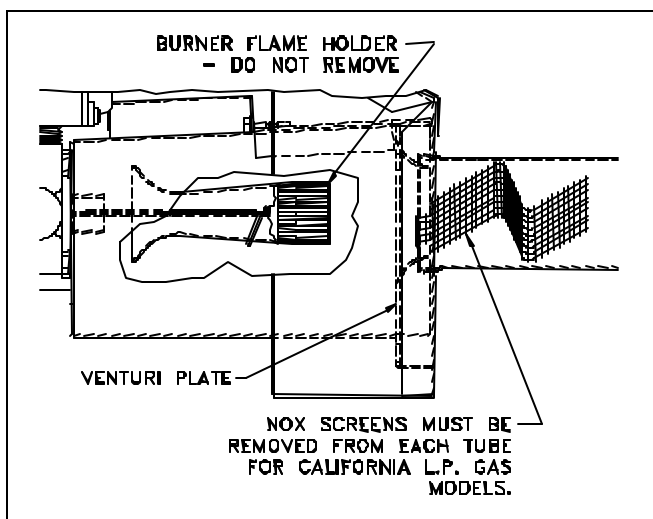

Figure 29. California NOx Screen Removal.
**WARNING:** Propane (LP) gas installations do not have gas meters to double check input rate. Measure manifold pressure with an accurate manometer. Failure to accurately adjust pressure could cause heat exchanger failure, asphyxiation, fire or explosion, resulting in damage, injury or death.
2. Gas supply pressure must be between 11 and 13 inches W.C. for propane (LP) gas. See Section 15, "Gas Supply Pressure and Pilot Adjustment."
**WARNING:** Do not set Propane (LP) manifold pressure at 11.0 inches W.C. It could cause heat exchanger failure.
NOTE: NOx reducing screens must be removed from each tube of California NOx furnaces when converting to propane (LP) gas. See Figure 29.